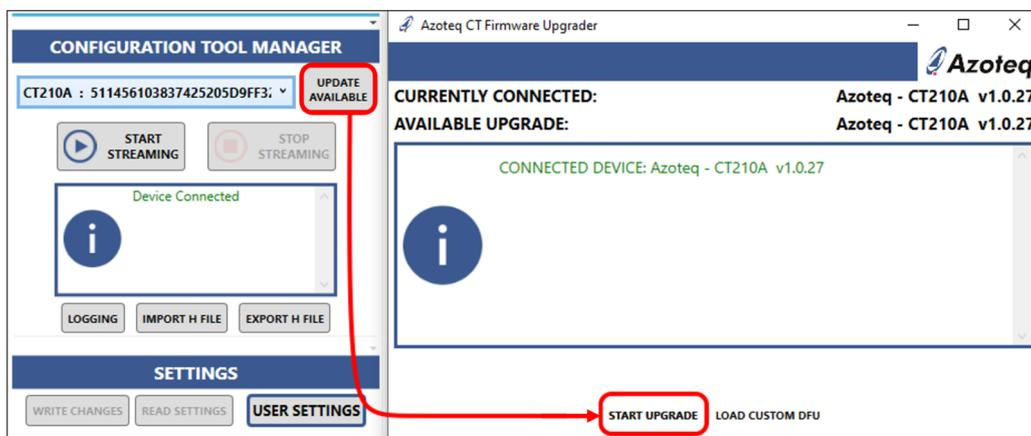

Figure 2.5: CT210A Firmware Upgrader
**Note:** If the connected CT210A device firmware is out of date, an 'UPDATE AVAILABLE' button should automatically appear next to the device enumeration. This button may then be clicked to launch the appropriate CT Firmware upgrade tool to update the firmware as needed. For the image displayed in Figure 2.5 below the CT210A connected was already up to date with the latest firmware and thus not requiring an update.